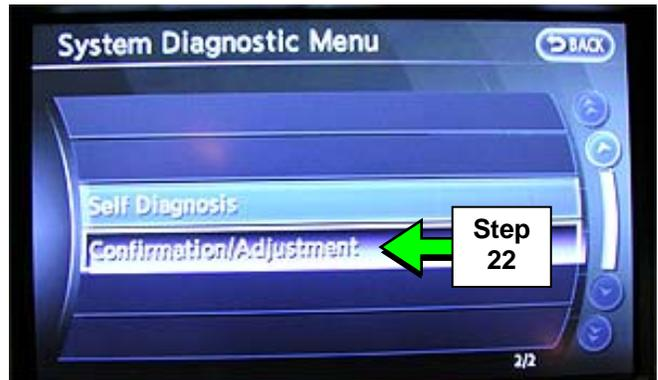

Figure 12
- When the system goes into the System Diagnostic Menu, the screen in Figure 12 will display.